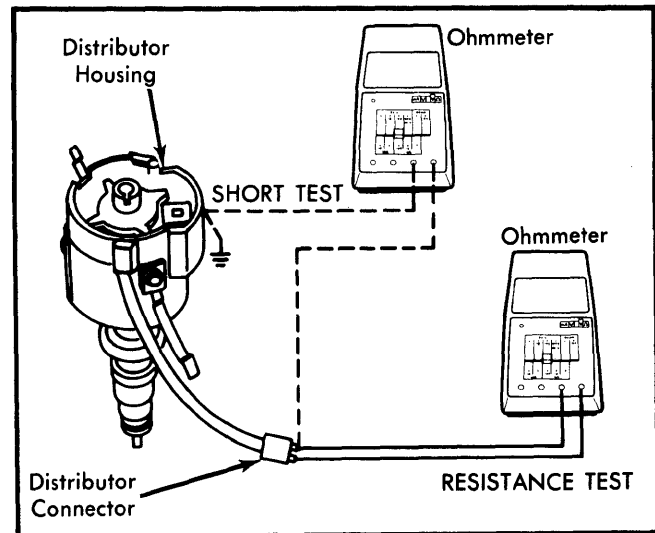

Fig. 5 Ohmmeter Hookup for Pick-Up Coil Resistance and Short Tests
1) Turn ignition switch "OFF". Disconnect connector for terminals "W" and "G" at amplifier module. Using an ohmmeter set in the x100 scale, check the resistance between distributor connector terminals. See Fig. 5.
Using an ohmmeter, connect leads to either distributor connector terminal and engine ground. An infinity reading should exist. If not, replace magnetic pick-up coil and harness assembly. See Fig. 5.